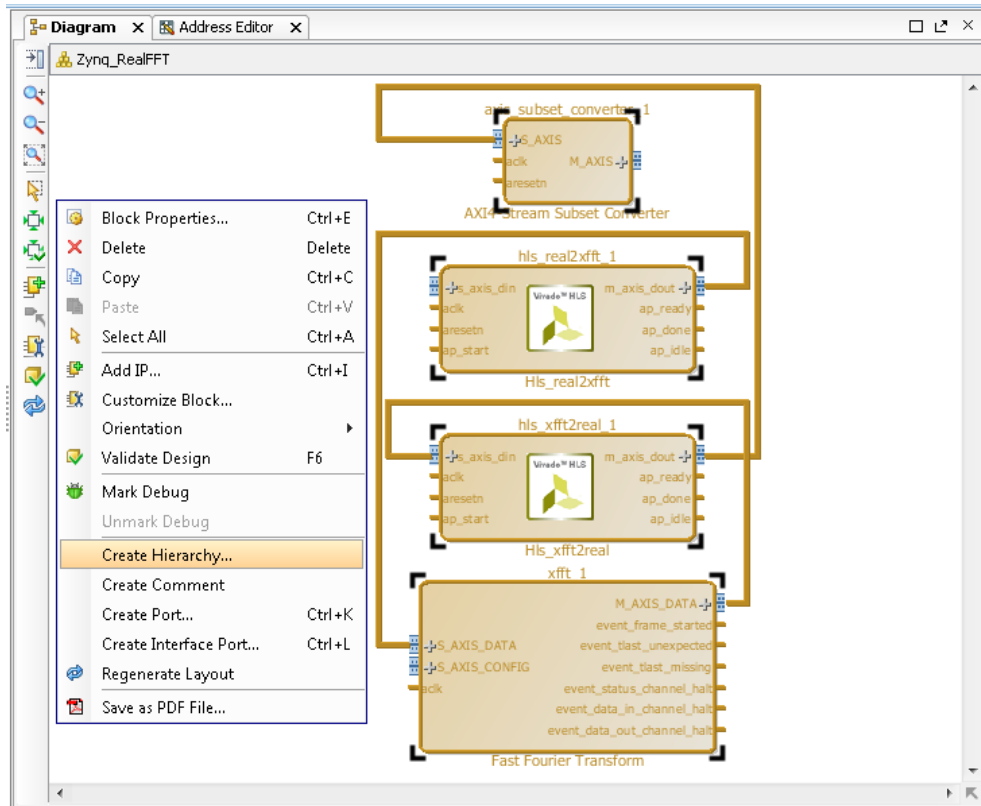

Figure 246: Create a Hierarchy Block
- b. Right-click the canvas and select **Create Hierarchy** from the context menu (**Figure 246**).